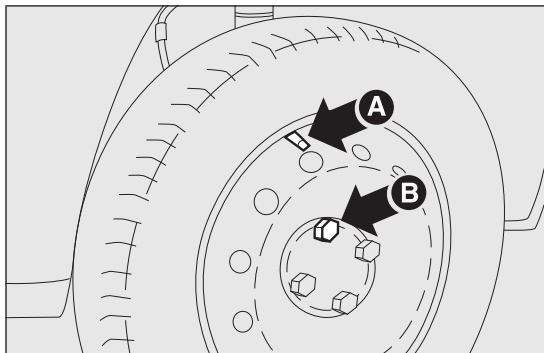

fig. 135
- ❑ fit the standard wheel by inserting the first bolt two threads B fig. 135 into the hole closest to the inflation valve A;